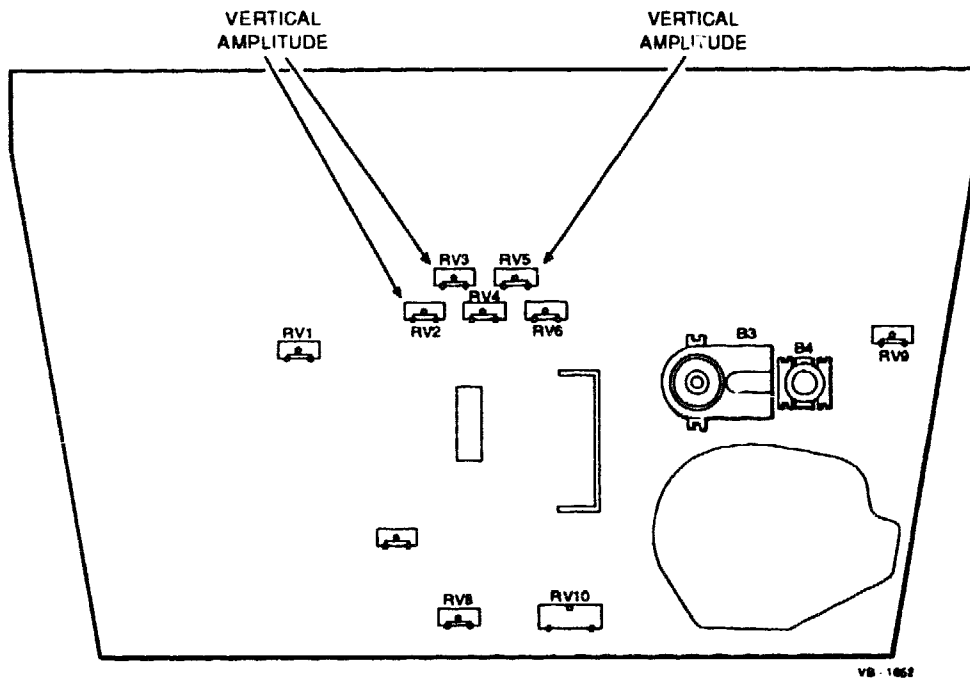

Figure 4-7 Monitor Board Trimmer RV2, RV3, & RV5
2. Adjust trimmer RV5 (Figure 4-7) for an image height of 155 mm (5-15/16 inches).
3. Choose the 640 x 350 Graphics test selection and adjust trimmer RV2 (Figure 4-7) to obtain an image height of 155 mm (5-15/16 inches).
4. Choose the 640 x 400 Graphics test selection and adjust trimmer RV3 (Figure 4-7) for an image height of 155 mm (5-15/16 inches).